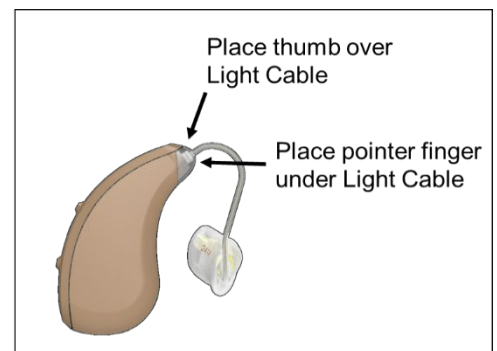

Figure 37 Light Tip Removal
- Hold the Processor in one hand and with the other hand place your pointer finger under the Light Cable where it connects to the Processor and place your thumb on top of the Light Cable (Figure 37).